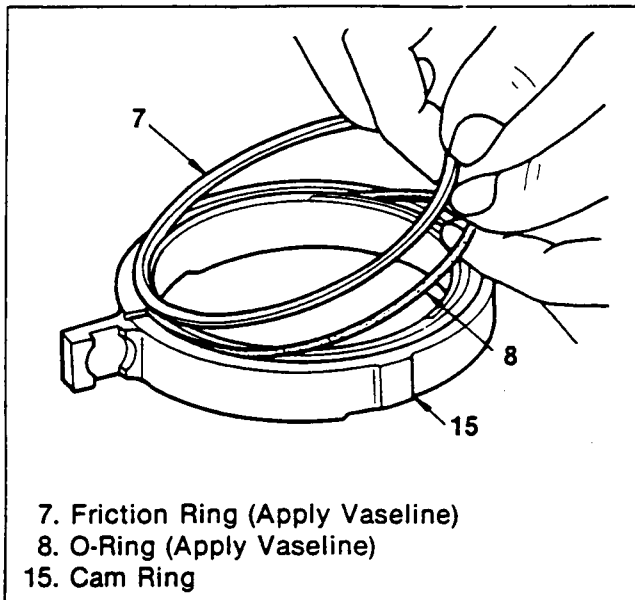

Figure 70. Cam Ring Installation (1)
1. Apply vaseline to the O-ring (new) and friction ring and then assemble them on the cam ring (figure 70).